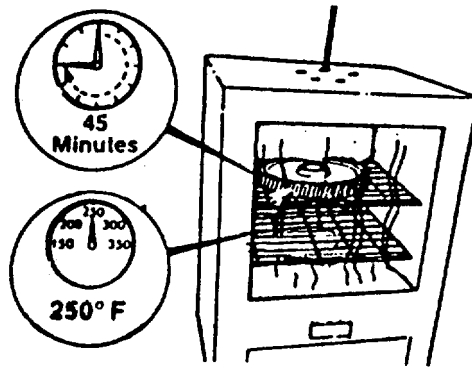

FIGURE 4-32. Heating Spur Gear.
- d. Lubricate the camshaft (5) surface with Lubriplate 105.
- e. Heat the spur gear (1) in an oven at 250°F (121°C) for 45 minutes as shown in FIGURE 4-32.